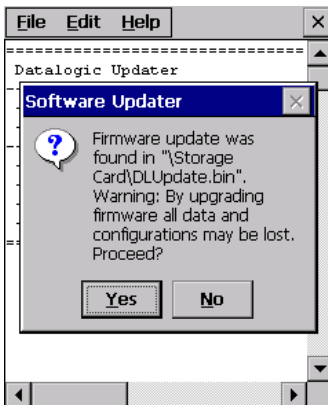

Figure 1
5. The message shown in figure 1 will come up on the screen. It informs that DLUpdater found a firmware update in “**\Storage Card\DLUpdate.bin**”. It also warns the user that by proceeding with the terminal firmware upgrade all data and configurations (registry) may be lost. Select **<YES>** to continue, **<NO>** to cancel operations.